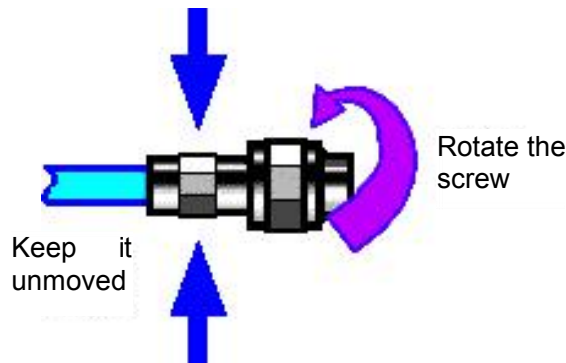

Fig.2.5 Connection
Step 2. As shown in Fig.2.5, move both connectors straight together, so that they can be connected smoothly; rotate the threaded sleeve of connector (rather than the connector itself) until it is tightened; during connection, there can be no relative rotary motion both connectors;